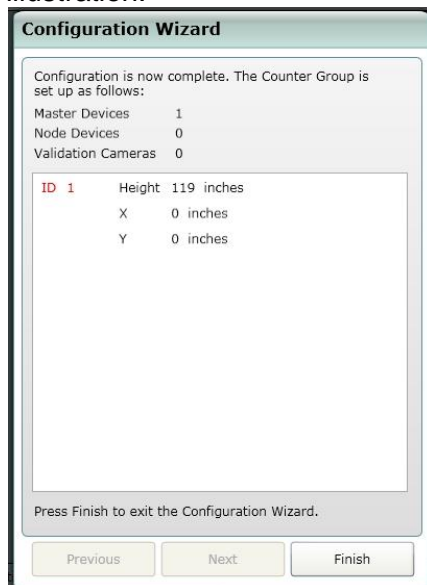

Figure 12
9. Press Next and you will be presented with a screen stating that configuration is complete. Press Finish to exit the wizard. See Figure 12 below for an illustration.